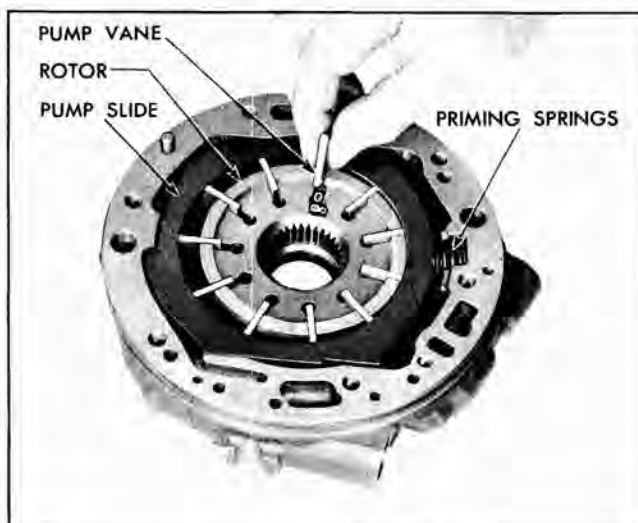

Fig. 76 Installing Pump Vanes
14. Install 11 vanes into rotor. Install the vanes so that the ring wear pattern on the edge of the vane is against the guide ring (Fig. 76).